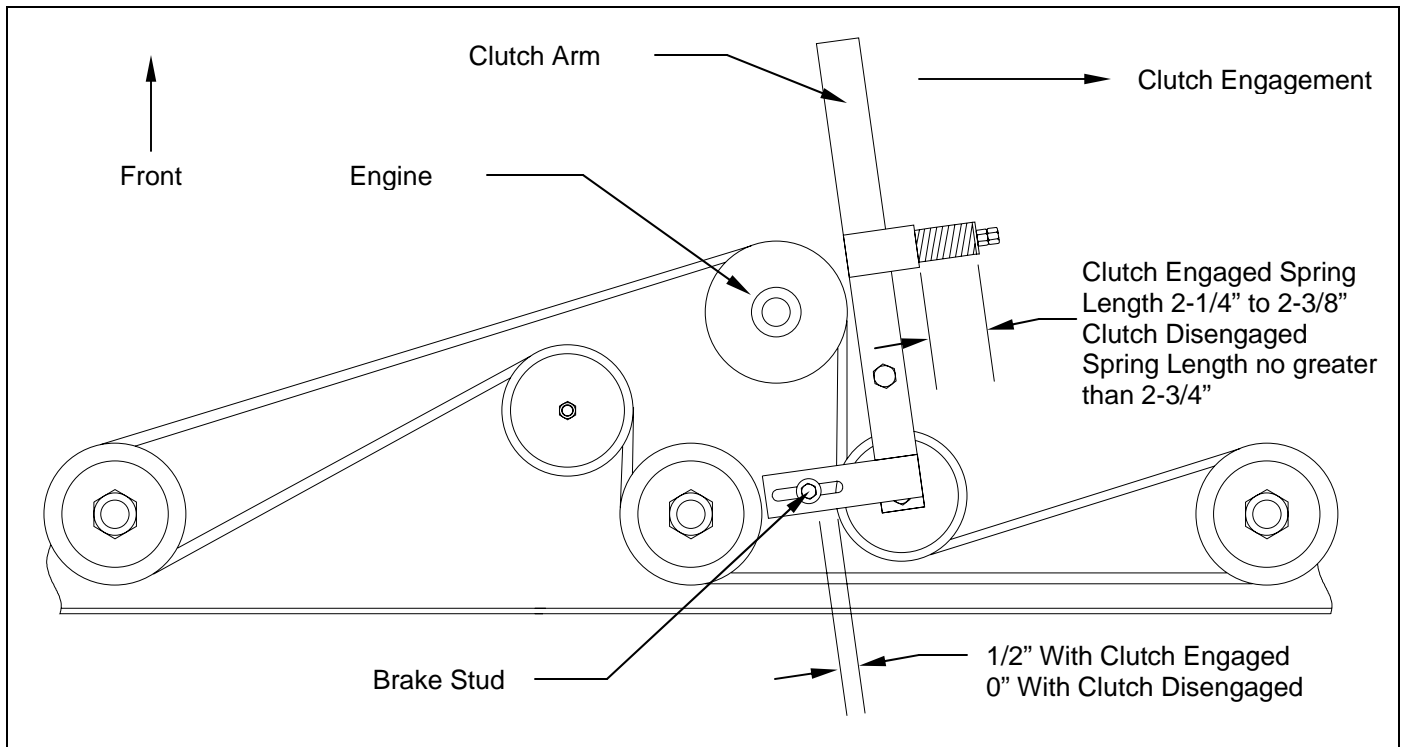

Figure 10: Belt Pattern and Spring Adjustment (Model E60B)
**For Model E60B: - See Figure 10.**